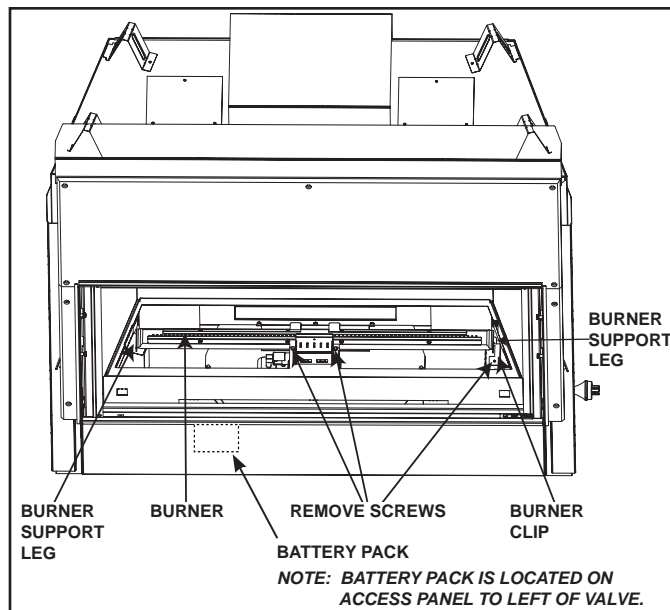

Figure 16.4 Remove Burner Assembly
1. Remove burner assembly by removing two screws that secure the burner to the pilot assembly bracket and remove the one screw that secures the burner clip that secures the burner to the base pan. See Figure 16.4.